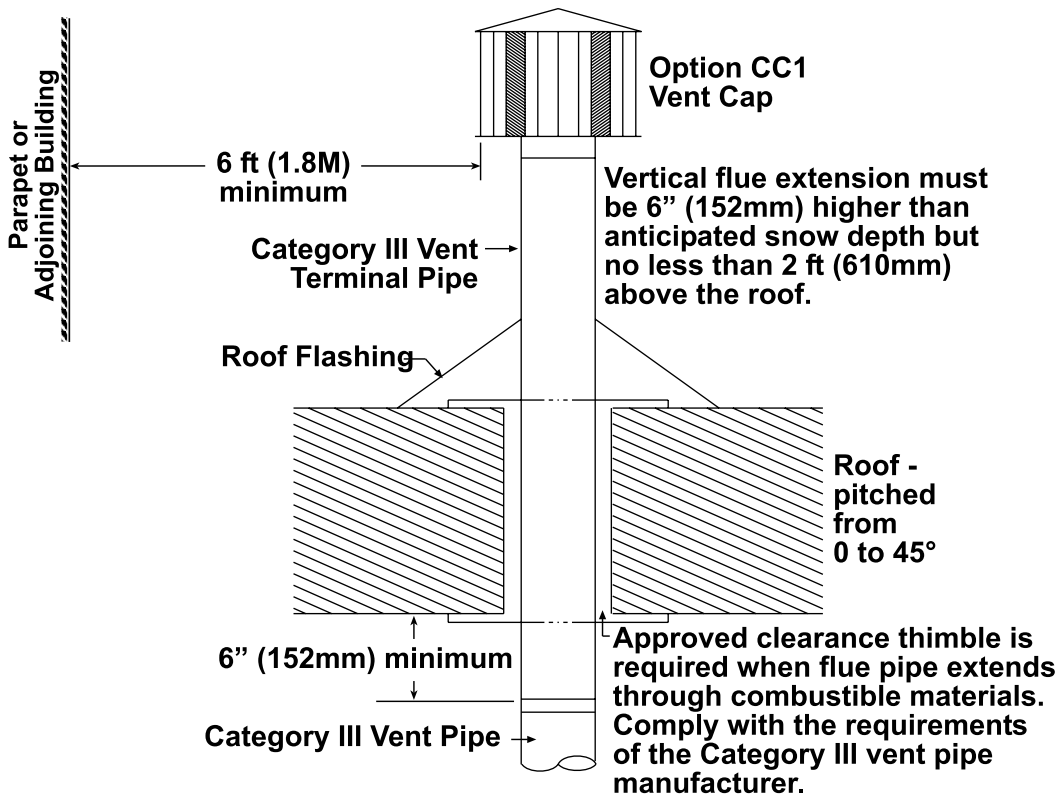

Figure 5. Vertical Vent Terminal (Residential Installations)
- c. Refer to instructions shown in Figure 5 to install vertical vent terminal.